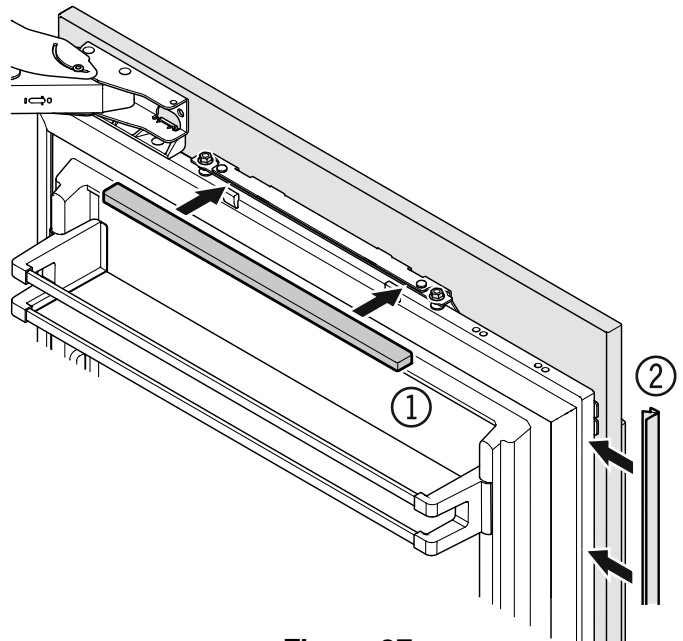

Figure 37
11. Click cover (1) into place. Insert the cover strip provided (2) between refrigerator door and panel (Figure 37).